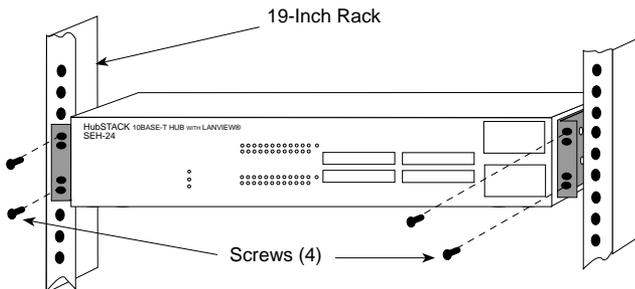

Figure 3-5. Installing the SEH in the Rack
3. With the mounting brackets installed, position the SEH between the vertical frame members of the 19-inch rack and fasten it securely with the mounting screws as shown in Figure 3-5.